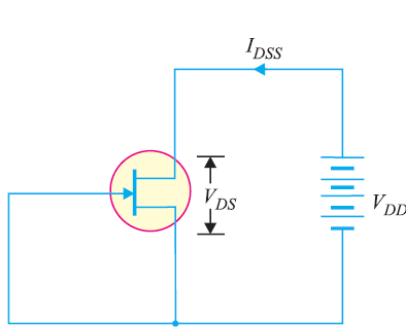
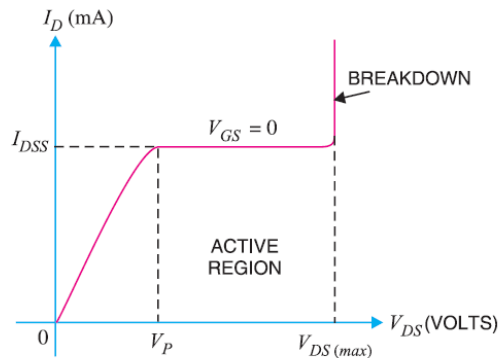

Fig. 19.9
Fig. 19.10
- (ii) There is a maximum drain voltage [$V_{DS(max)}$] that can be applied to a JFET. If the drain voltage exceeds $V_{DS(max)}$, JFET would breakdown as shown in Fig. 19.10.
Fig 19.9 shows the *JFET* circuit with $V_{GS} = 0$ i.e., source shorted-circuited to gate. This is normally called shorted-gate condition. Fig. 19.10 shows the graph between I_D and V_{DS} for the shorted gate condition. The drain current rises rapidly at first and then levels off at pinch off voltage V_P . The drain current has now reached the maximum value I_{DSS} . When V_{DS} is increased beyond V_P , the depletion layers expand at the top of the channel. The channel now acts as a current limiter and ******holds drain current constant at I_{DSS} .